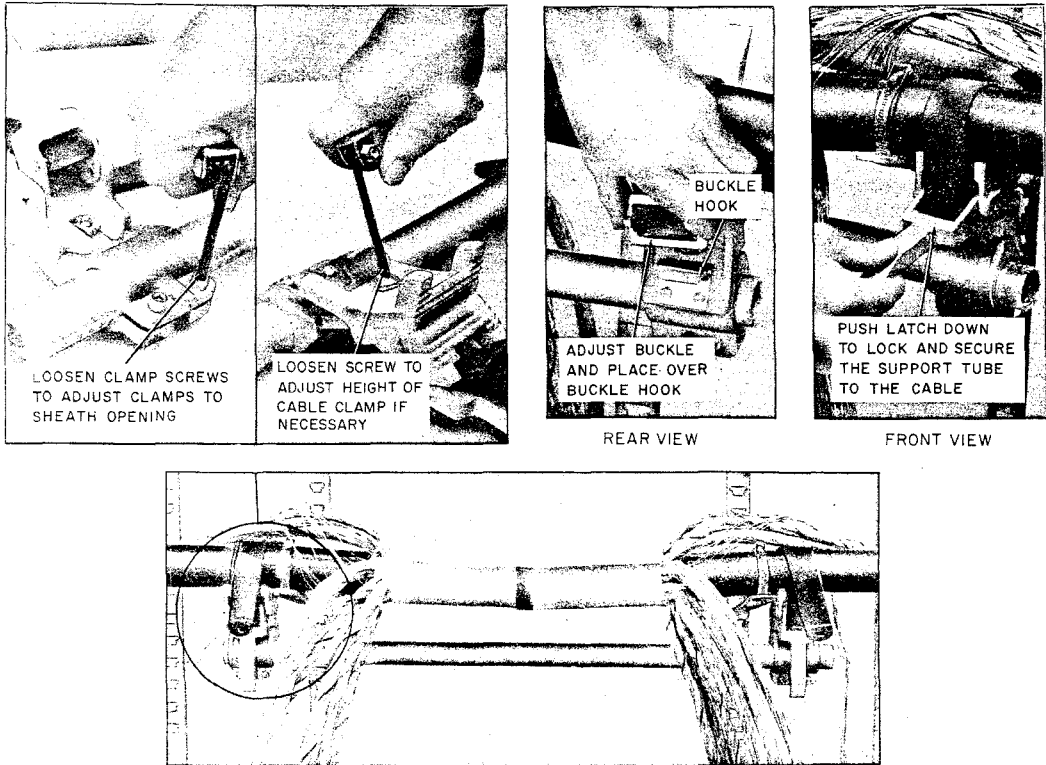

Fig. 19—Installation of Support Tube on Cable
- 4.05 Mount the B support frame on cable to support tools (Fig. 19).